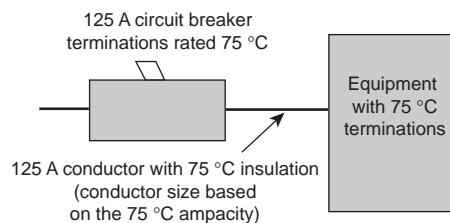

Figure 7: Conductors Rated 75 °C
- Conductors rated 75 °C (see Figure 7).